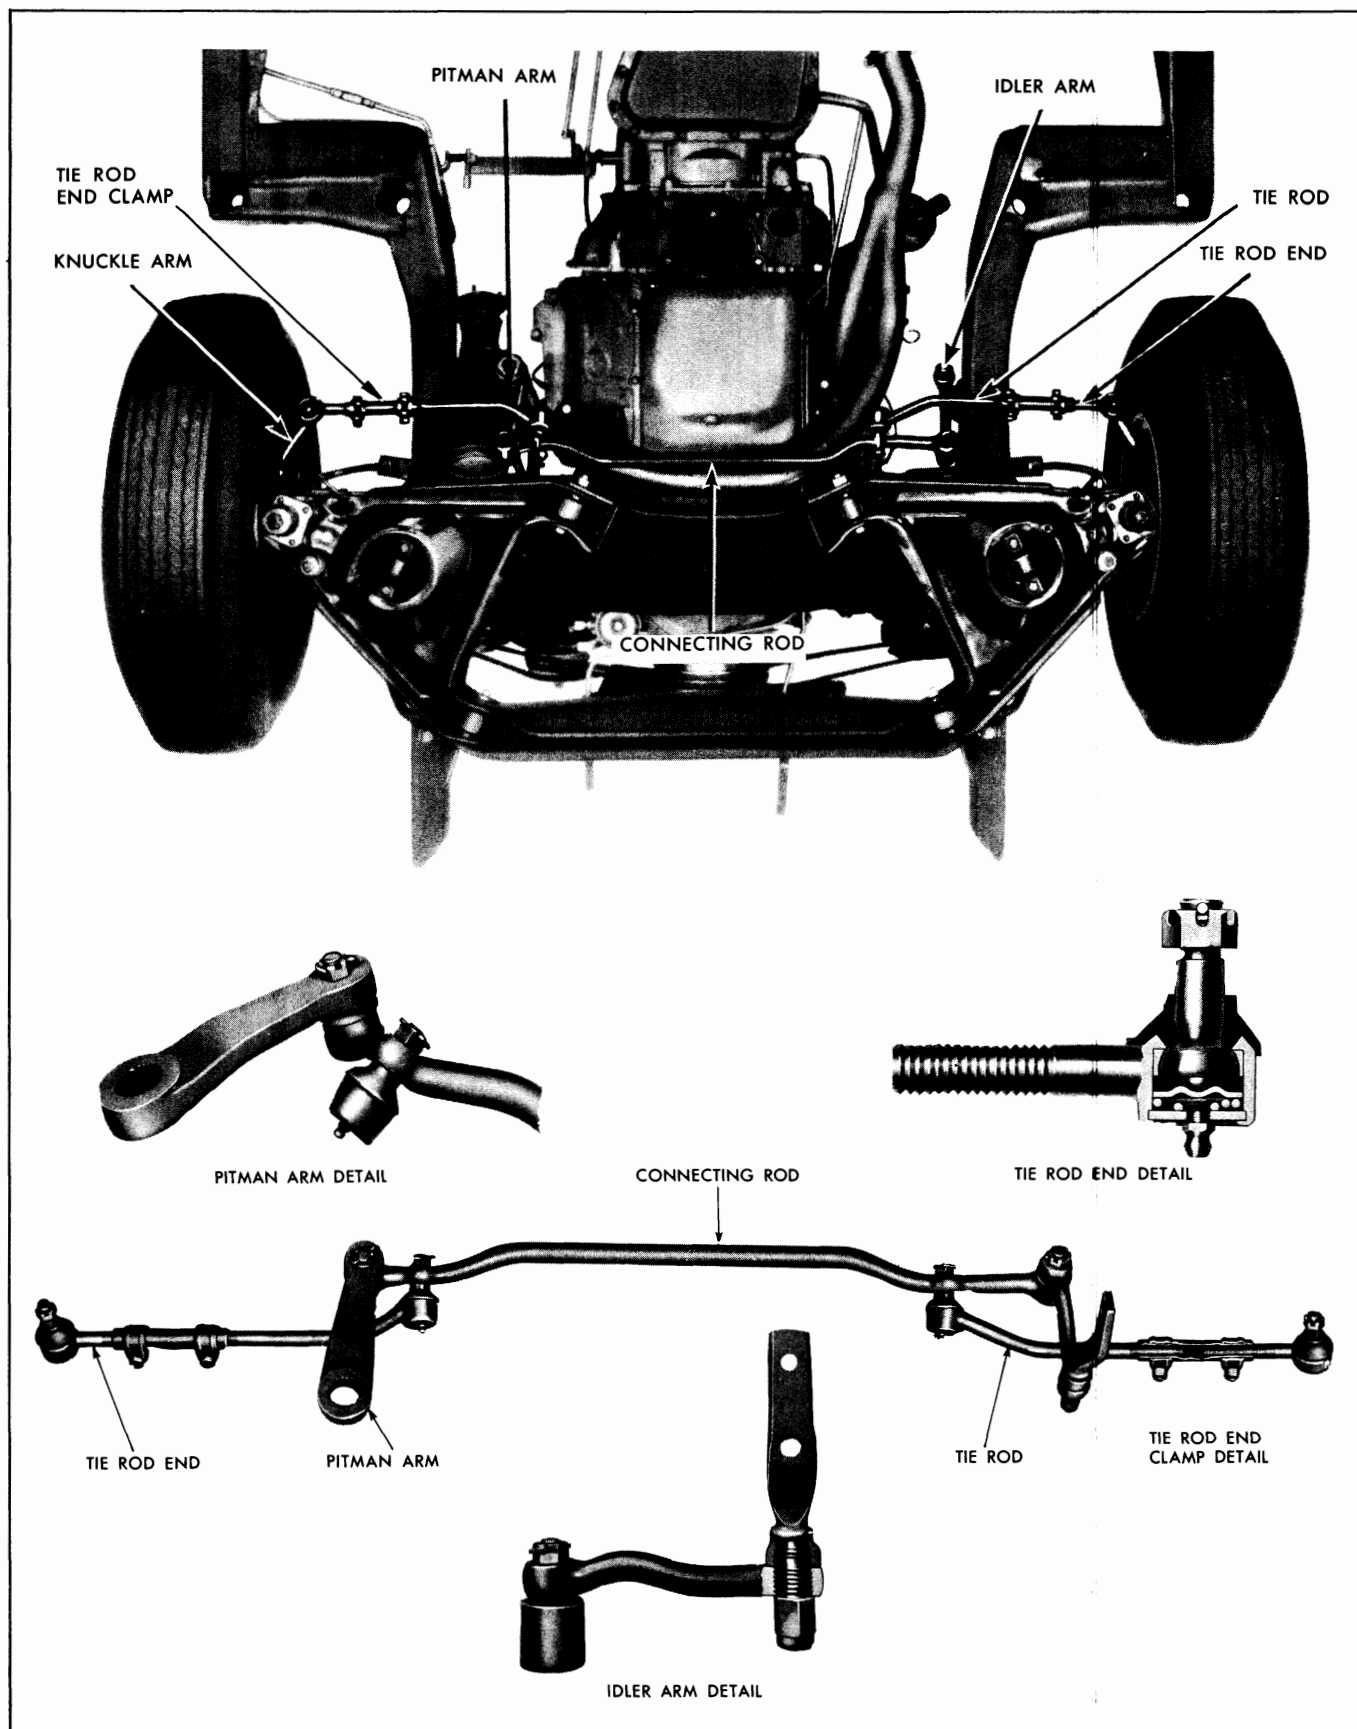

Fig. 9-3 Steering Linkage
1. Disconnect steering connecting rod from pitman arm (Fig. 9-3).